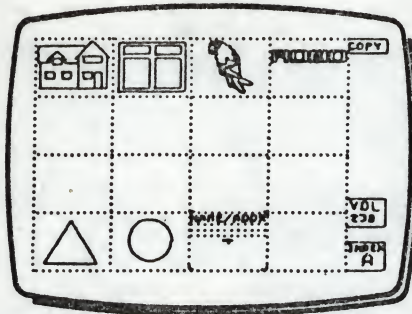

Fig 1
- 2 Select COPY from the Menu, the Library Index page will appear (Fig 1).